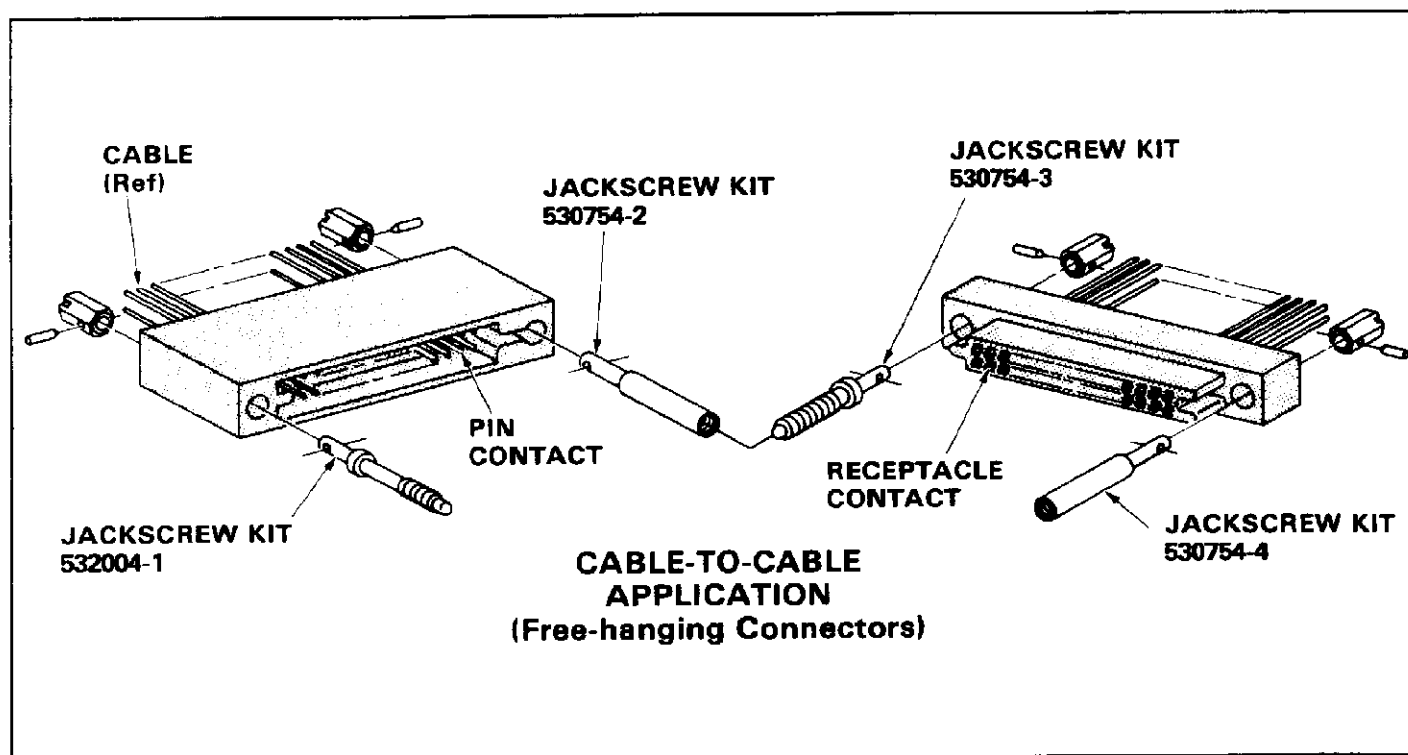

Fig. 2
1. Free-hanging Connectors (Figure 2)